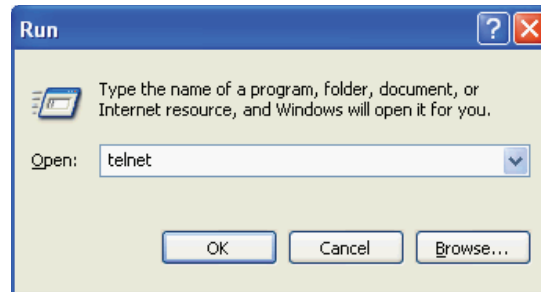

Figure 98. Run Program Window
2. The Run window appears. In the **Open** field, type `telnet` and click **OK** (see figure 98).